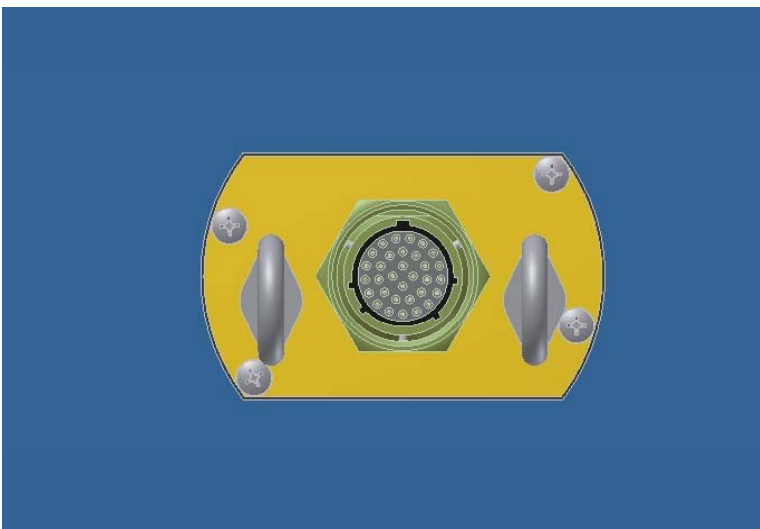

Figure 6-4 - Digital Input/Output Connector
- b) Digital Input/Output– This connector consolidates the POWER, GPS, I/O1 and I/O2 connectors on the standard SMART-24 product line. See Figure 6-4.